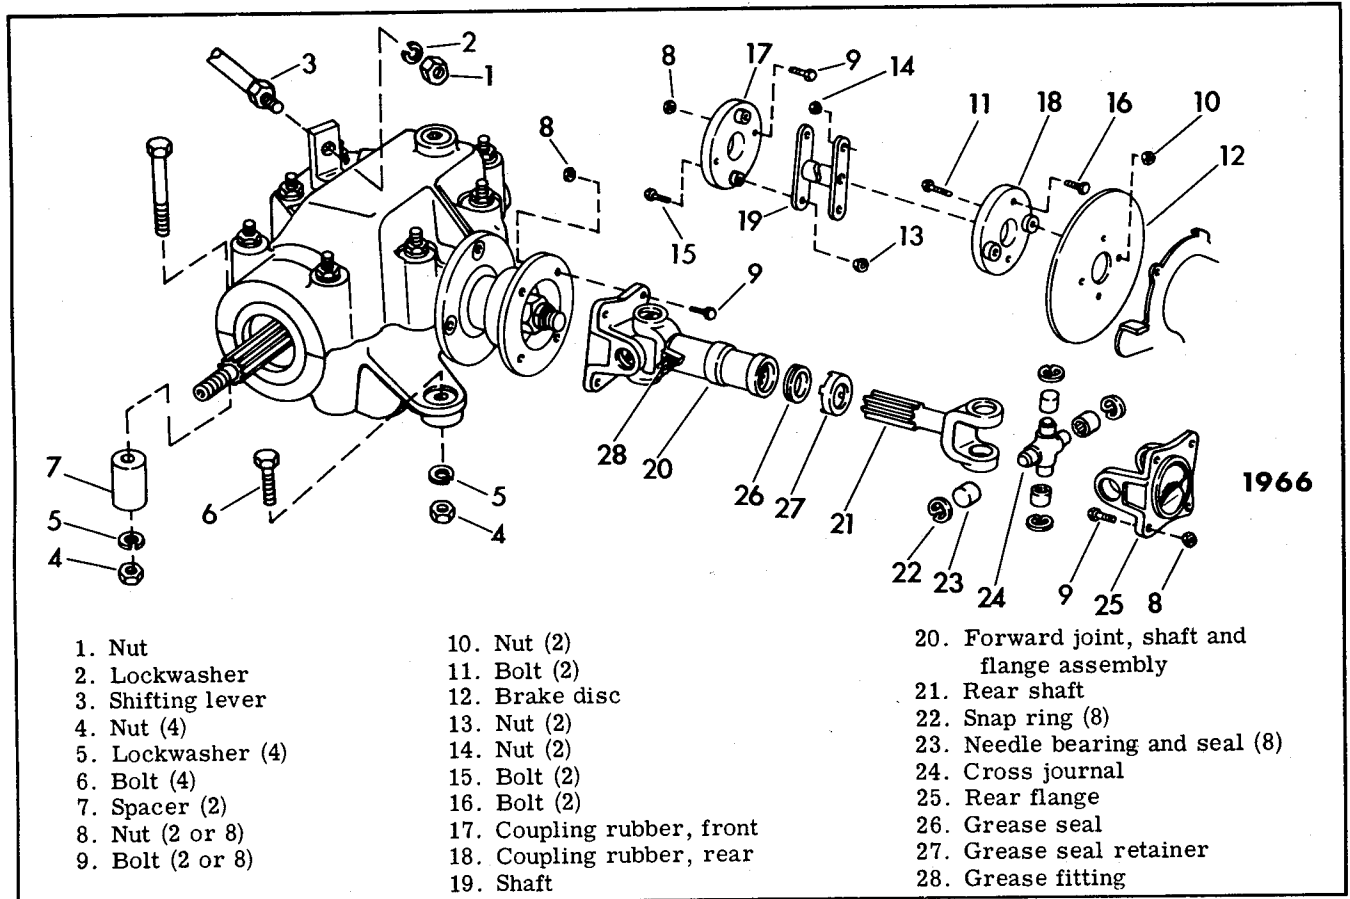

Figure 4D-40. Reversing Unit and Coupling - Exploded View
**DRIVE COUPLING (RUBBER DISC TYPE) (Fig. 4D-40)**